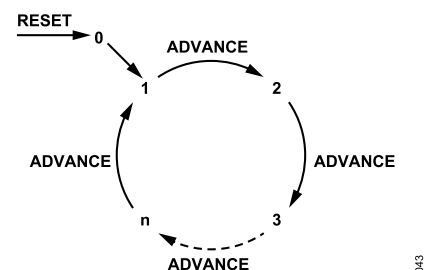

Figure 42. State Machine Position Loop
Figure 42 shows how the state machine pointer moves through a loop. In this diagram,  $n$  is the total number of states inside the loop. Because the sequencer depth bit field is 0 indexed,  $n$  is equal to one more than the value in the sequencer depth bit field.
- ▶ Bits 0 to Bit 3: MULT\_STATES. These bits set the number of states in the loop (see Figure 42).
- ▶ Bit 0 to Bit 3: RX\_STATES. These bits set the number of states in the loop (see Figure 42).